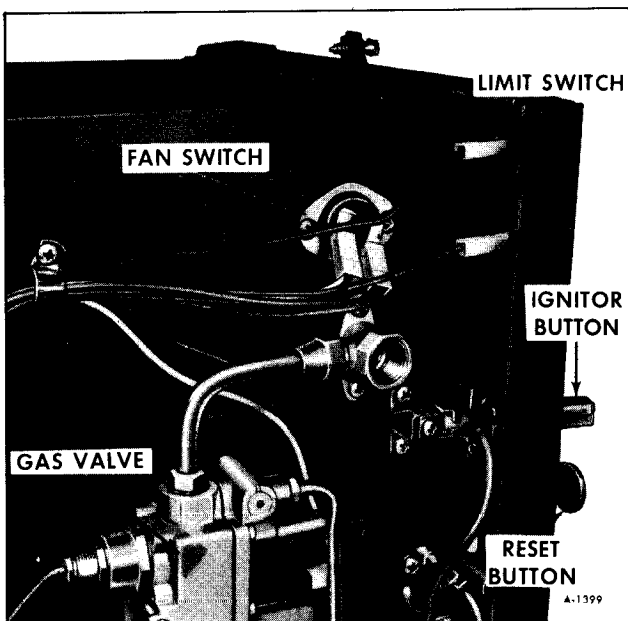

Figure 33-Fan Switch
2. Disconnect wires from fan switch shown in Figure 33.
1. Install fan switch on combustion chamber side with two screws (figure 33).